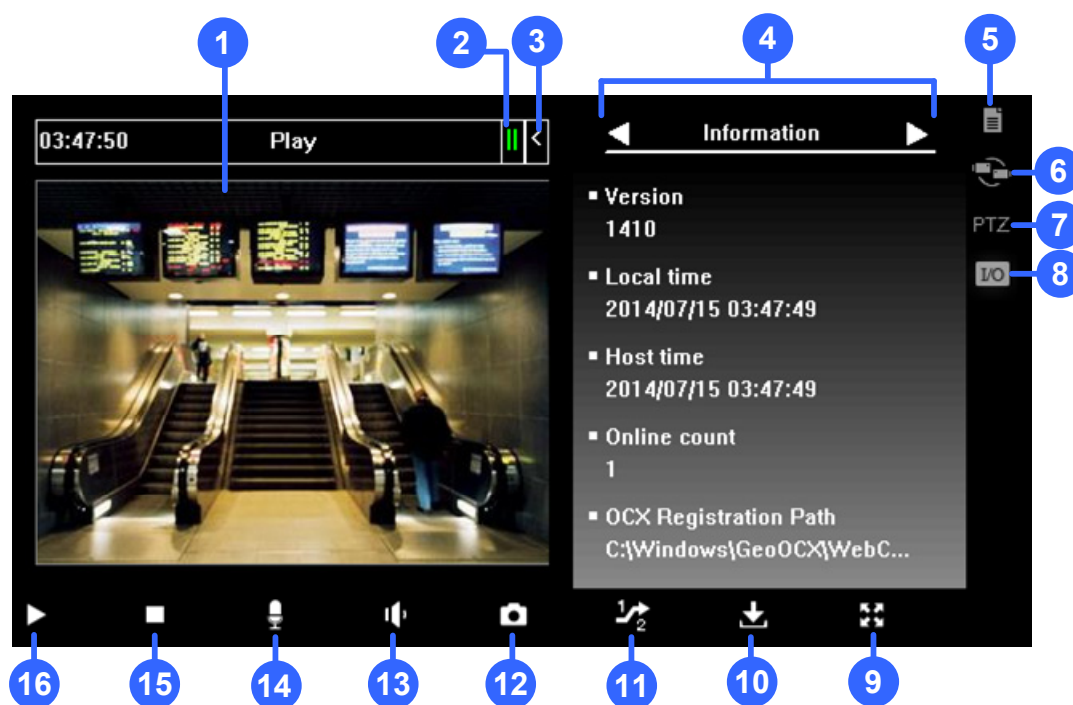

Figure 7-11 Single View MPEG4 Encoder Viewer
2. On the Single View, click the **Change Quality** button (No. 11, Figure 7-11). You will have the option of megapixel resolution now.
Click the **File Save** button (No. 10, Figure 7-11) to save video in a local computer. Files saved in AVI format are playable at third-party viewers. Use the slider to adjust the time length of each saved clip.
Click the **Camera Select** button to select one PTZ camera, and click the **PTZ Control** button (No. 7, Figure 7-11) to bring up the PTZ control panel.